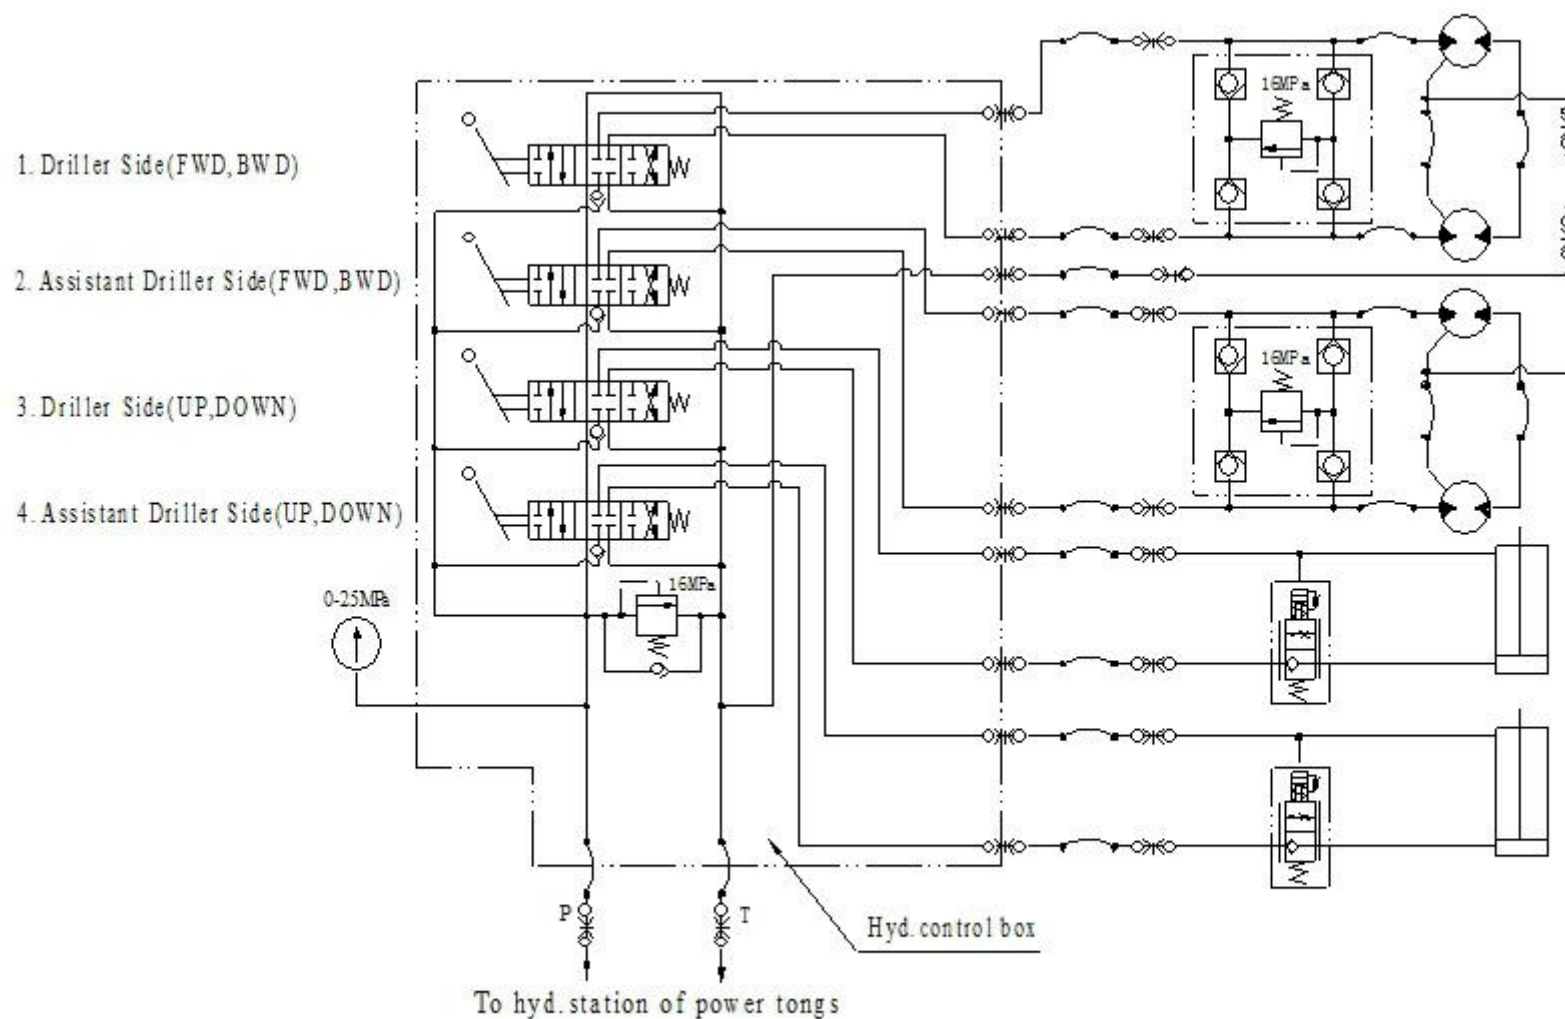

Fig.3: Hydraulic principle of DZ500-4 BOP Handling System
3. Fig.3: Hydraulic Principle of DZ500-4 BOP Handling System